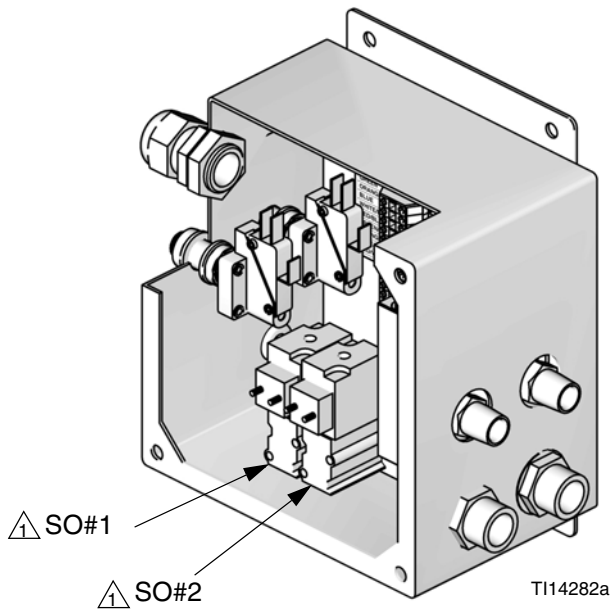

Fig. 7. Install Solenoid (two shown)
1. Each gun flush box kit includes one solenoid (SO). The GFB interface module can accommodate 1 or 2 solenoids. Install the solenoid(s) on the manifold at the bottom rear of the enclosure. See Fig. 7.